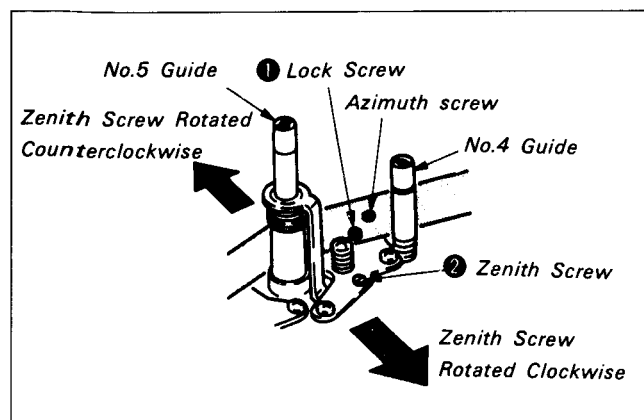

Fig. 7-73.
- 1) Playback the alignment tape (WR5-1C) for tracking. Rotate No.4 guide counterclockwise and No.5 guide clockwise in order to make the tape running on the exit side free. (See Fig. 7-73.)
- i) Rotate the lock screw ① counterclockwise to loosen.
- ii) Slowly rotate the zenith screw ② 45° at a time and wait until the RF waveform varies.
- iii) Rotate the lock screw ① clockwise to tighten. (See Fig. 7-73.)